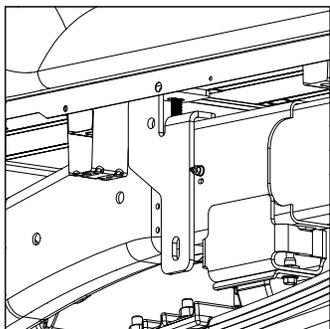

Figure C4: View looking at outside of driver side frame.
5. **Install front brackets:** Locate the driver side front bracket, a U-bolt, two 1/2" x 2" carriage bolts, 1/2" flat washers, 1/2" lock washers and 1/2" finish nuts. Position the bracket behind the crossmember under the installation location of the forward mounting rail. Maneuver the bracket so that the 1/2" carriage bolt passes through the slot at the top of the bracket as shown in figure C4. While holding the bracket flat against the outside of the frame pass the U-bolt over the frame and through the bracket and secure with 1/2" hardware, see figure C5. Repeat for passenger side. Hand tighten each nut.